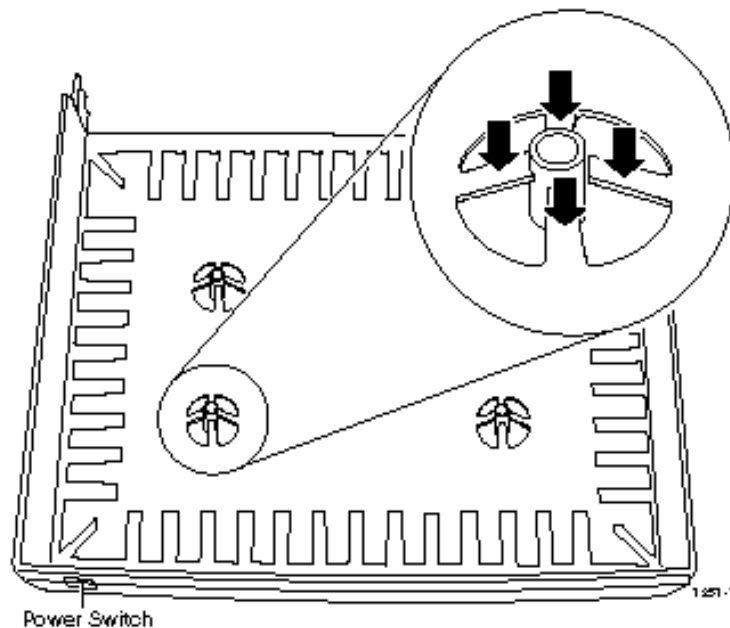

Figure 1. Network Computer Flanges
1. Lay the top plastic cover upside down on a flat surface as shown in Figure 1.